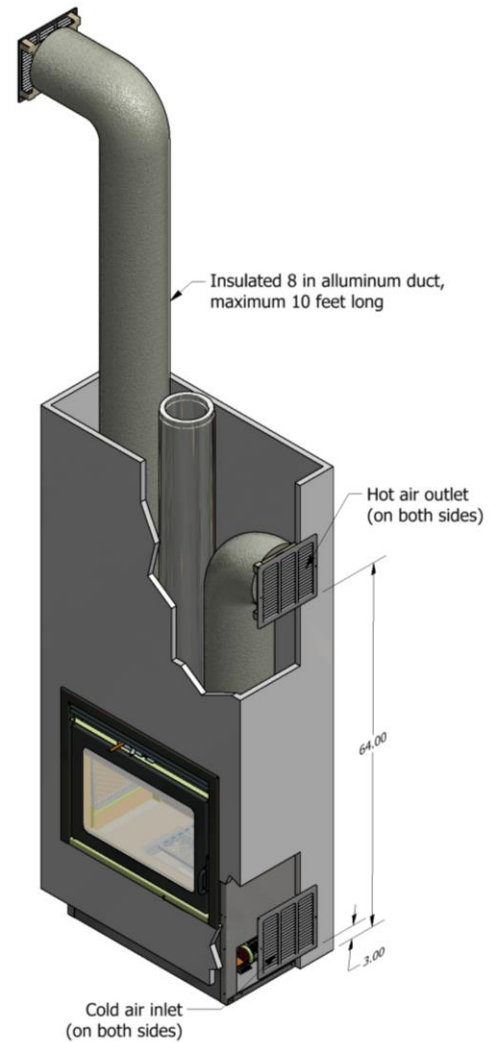

Figure 13 – Gravity kit installation
- The hot air grilles of the Gravity Kit should be at least 68 inches from the floor and the ducting should have a maximum length of 10 feet (see figure 13).